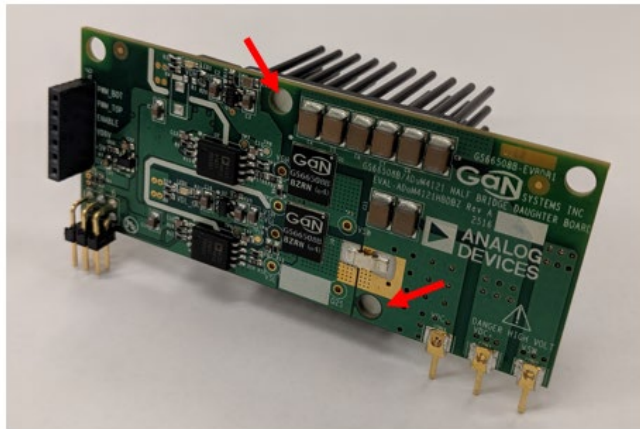

Figure 9 The daughter board with heatsink attached
4. Two optional mounting holes as shown in Figure 9 are provided for mounting customized heatsink using screws.